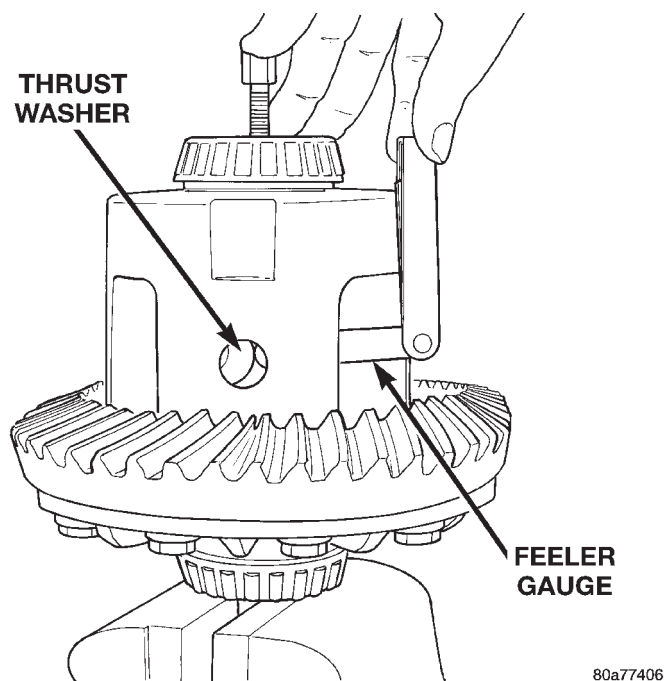

Fig. 42 Remove Pinion Gear Thrust Washer
(10) Using an appropriate size feeler gauge, remove thrust washers from behind the pinion gears (Fig. 42).